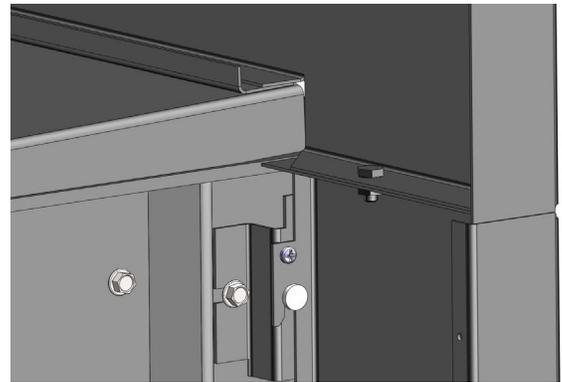

Figure 8. TN20.INSA.packing screw.
- 1) Remove the shipping screws located at the top of each surround side panel (fig. 8). remove the two screws holding the Fan Controls on the side panel and remove the controls (Fig.8). Lift to remove both panels from the unit.